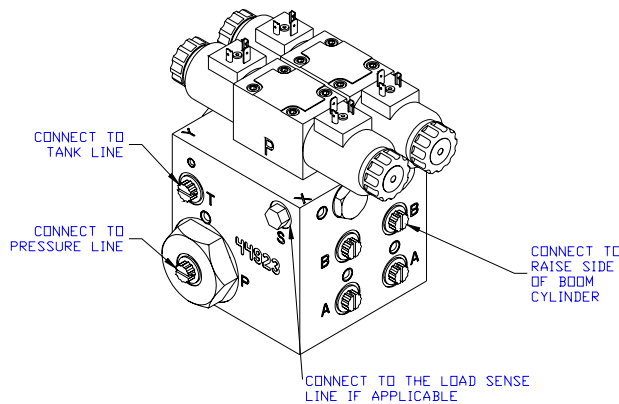

Figure 19 – NORAC Valve Block
1. On a clean surface remove all plastic plugs from the NORAC hydraulic Valve (V01) (Figure 19).